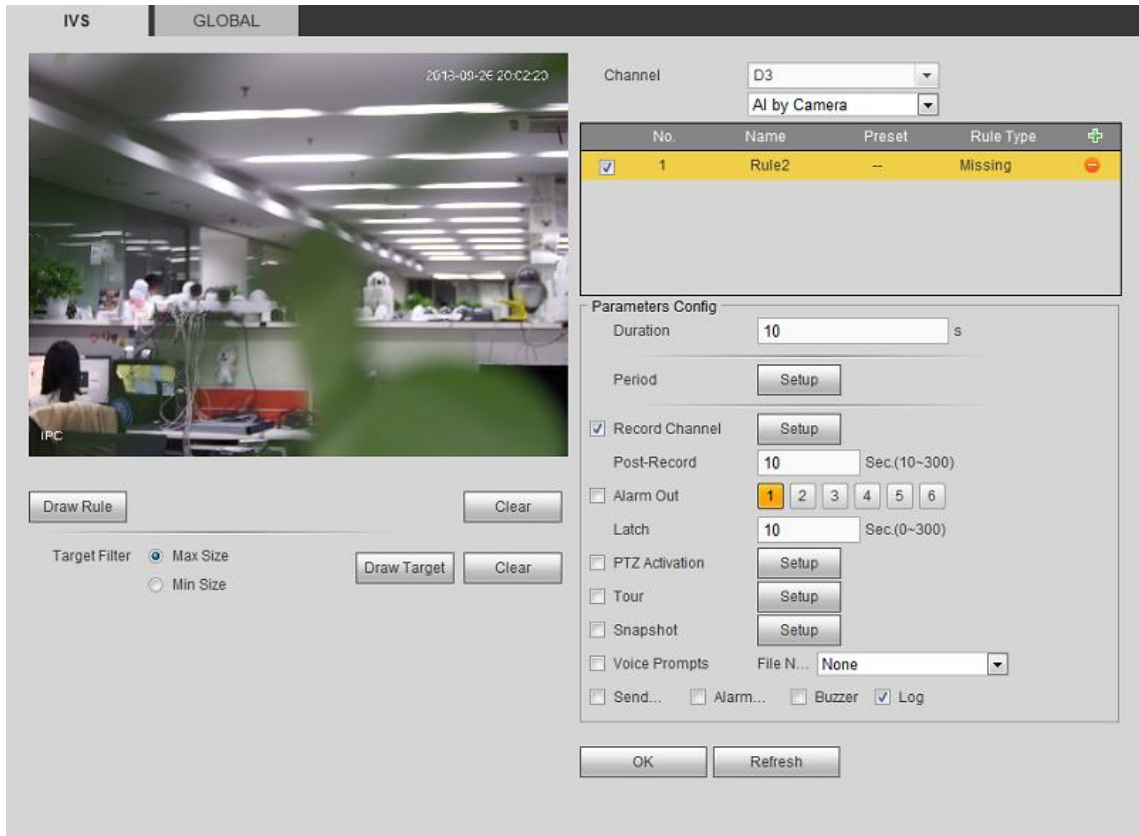

Figure 5-77
Step 2 In the Rule Type drop-down list, select Missing. See Figure 5-77.